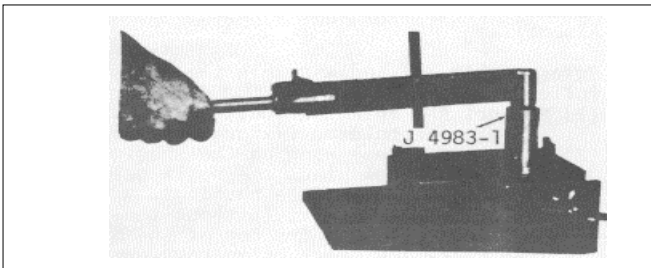

Fig. 40
- (8) Use socket J 4983-01 and a torque wrench to tighten the injector nut to 75-85 ft/lb. (102-115 N·m) torque (Fig. 40).